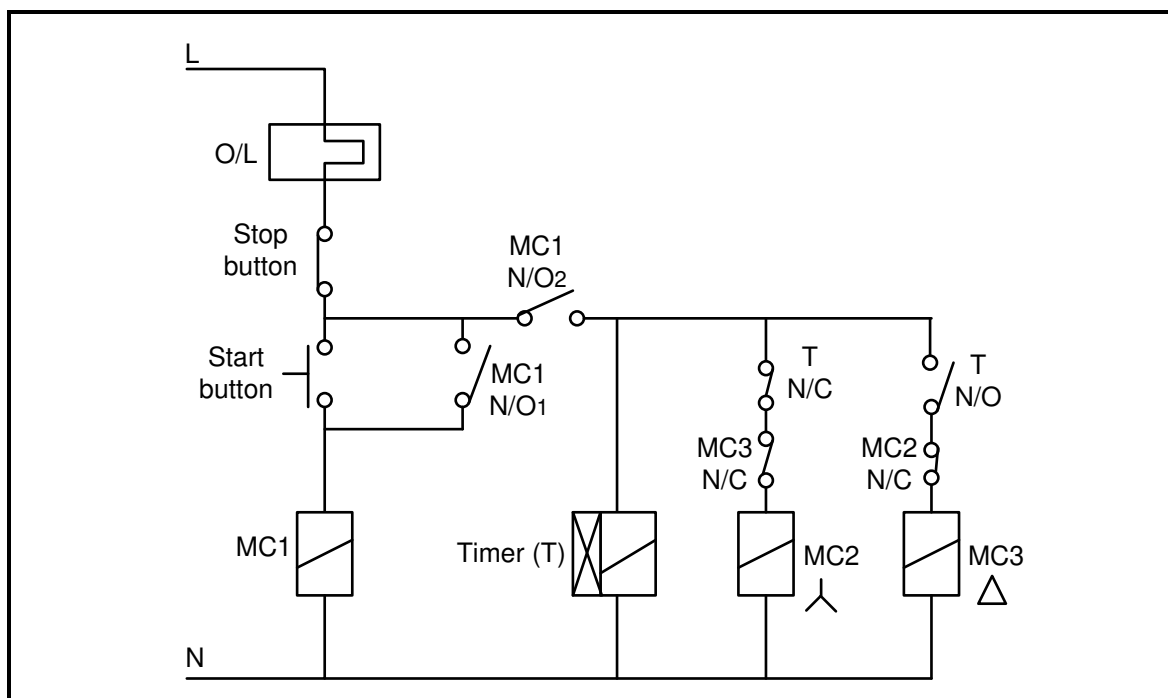

FIGURE 5.7: CONTROL CIRCUIT
- 5.7 FIGURE 5.7 below shows a control circuit. Study the diagram and answer the questions that follow.
- 5.7.1 Identify the control circuit diagram in FIGURE 5.7. (1)